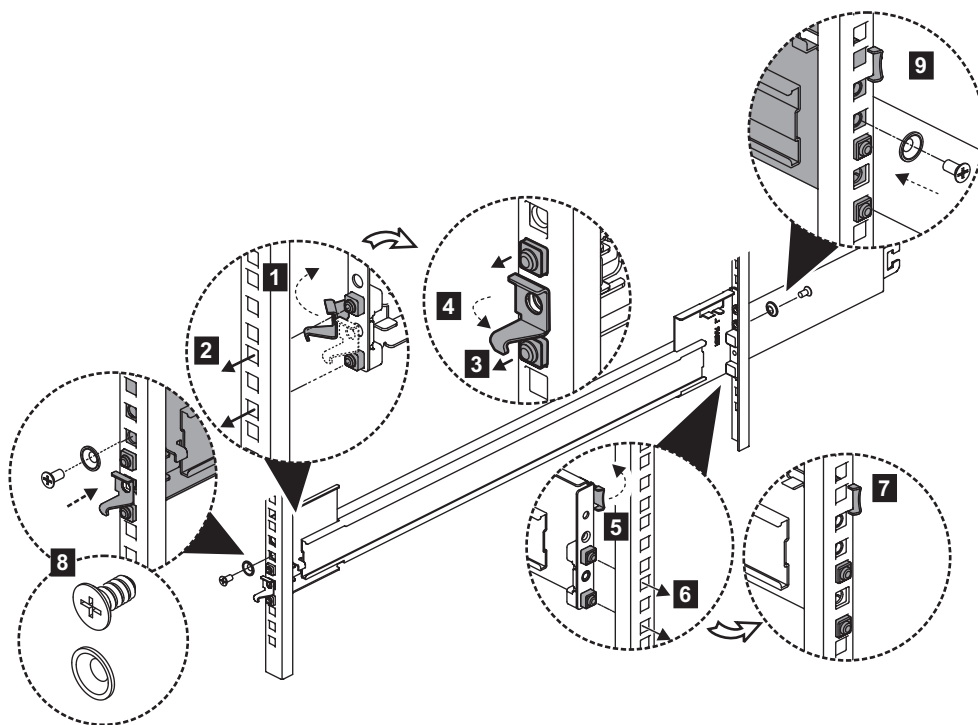

Figure 43. Install the bracket assembly to the frame
7. Install the outer section of the rail to the rear frame, as shown in Figure 43.